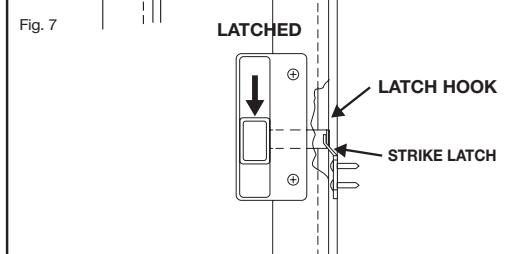

Fig. 8
C. Attach strike latch to frame jamb and test latch engagement by sliding handle latch bar downward (**Fig. 8**).